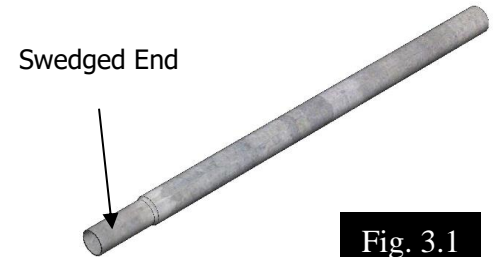

Fig. 3.1
1. Locate the 3'-0" (36in.) axle extension. The axle extension will be swaged on one end. See figure 3.1.